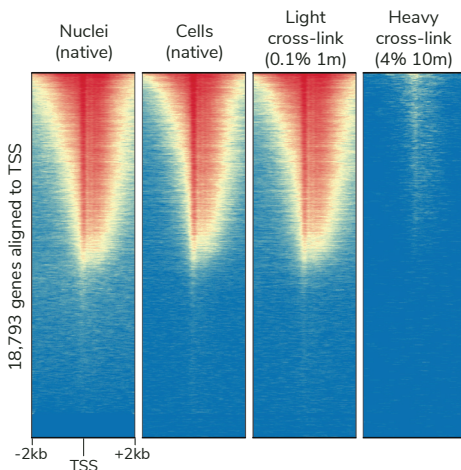

FIGURE 16
- Start with light cross-linking (0.1% formaldehyde, 1 min), which generally preserves signal without negatively impacting yields and data (Figure 16).
- Avoid heavy cross-linking associated with ChIP protocols (>1% formaldehyde, 1-10 min) which is deleterious to both DNA yield and data quality (Figure 16).